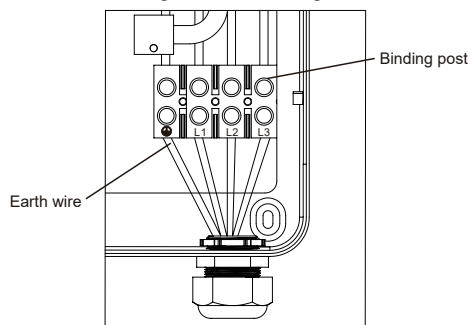

Figure 6
- 4.3. Water heater line connection: open the water heater surface shell, successively connect the fire wire 1, fire wire 2, fire wire 3 end to the wiring holes of the water heater terminal code: L1, L 2, L3, and then connect the ground wire to the ground wire wiring hole of the terminal column (refer to Figure 6).